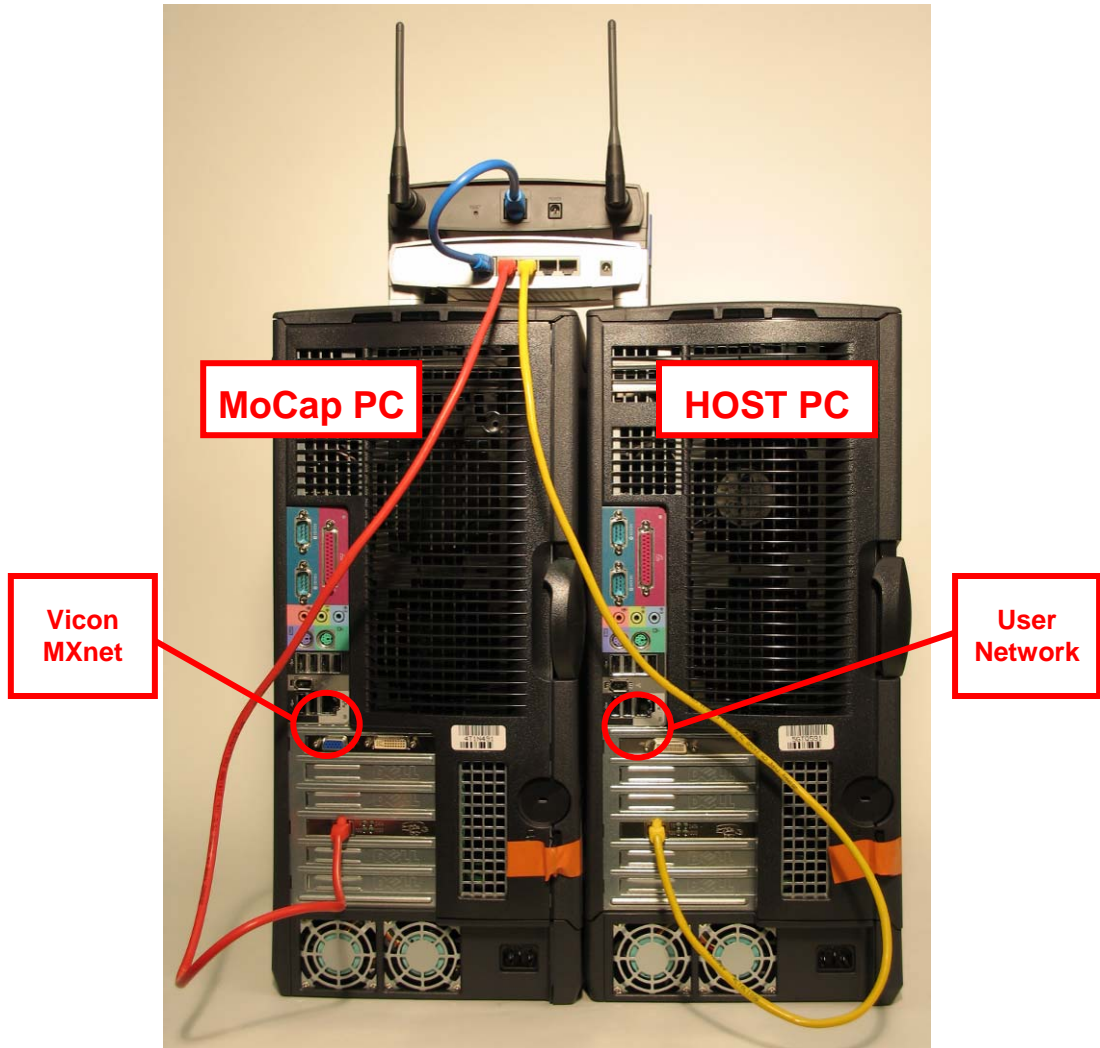

Figure 4: Setting up your system
4. The next step is to connect it all together. Place the two computers side by side, with the wireless bridge and Ethernet switch stacked on top, as shown in Figure 4. Using the short **BLUE** Ethernet patch cable connect the wireless bridge to the number (1) position on the Ethernet switch. Connect the **RED** three foot patch from the PCI Ethernet card in the MoCap PC to position (2) on the Ethernet switch. Connect the **YELLOW** three foot patch from the PCI Ethernet card in the Host PC to position (3) on the Ethernet switch. The built in Ethernet port on the MoCap PC goes to the Vicon MXnet box (the port is found on the back of the MXnet). The built in Ethernet port on the Host PC goes to the outside world.